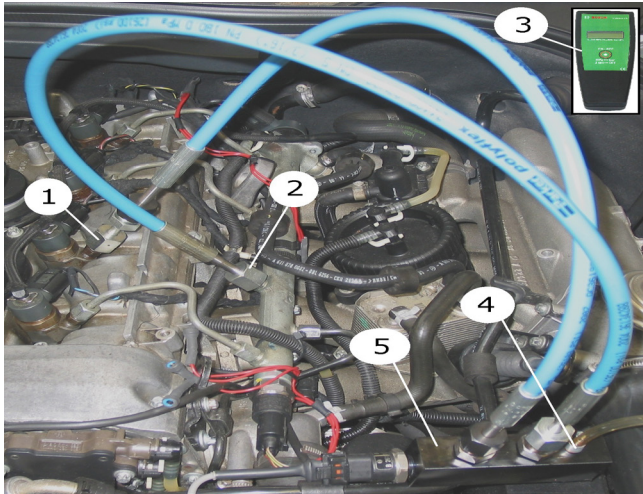

Abb. 16: Example of connecting the rail pressure sensor for a comparison test (engine running with all cylinders)
For safety reasons, a pressure limiter that limits the pressure to 180 MPa is incorporated into the pressure sensor (fig. 16, item 5). Be sure to attach the provided hose to the connection (fig. 16, item 4) on the pressure sensor and direct it into a collecting container suitable for diesel fuel.
3. Using the appropriate connection adapter, angle, nut and compression ring (left-hand thread), connect the first 180 MPa hose assembly (fig. 16, item 2) to the rail and pressure sensor (fig. 16, item 5).
4. Using the appropriate connection adapter, angle, nut and compression ring (left-hand thread), connect the second 180 MPa hose assembly (fig. 16, item 1) to the injector and pressure sensor (fig. 16, item 5).
6. Attach the connecting cable to the digital pressure display unit (fig. 16, item 3) and rail pressure sensor of the pressure module (fig. 16, item 5).